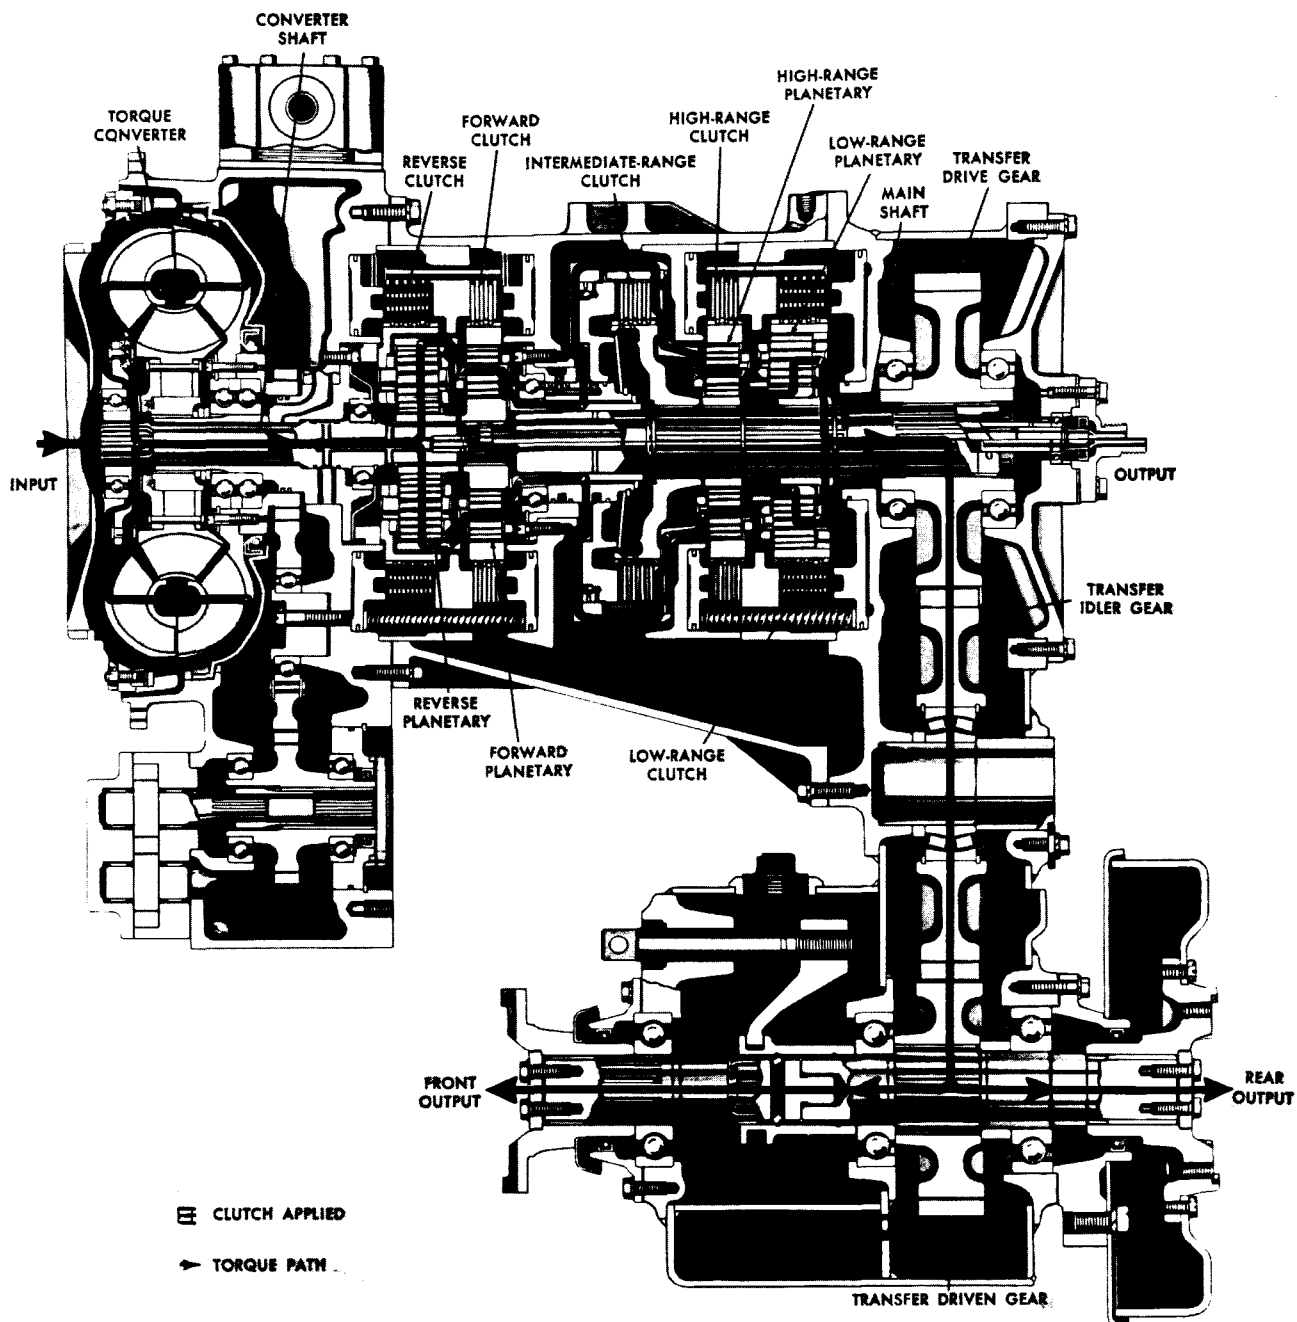

Fig. II-5. Reverse, low-range—torque path (CRT 3331-1)
27. REVERSE, LOW RANGE — TORQUE PATH (fig. II-5)